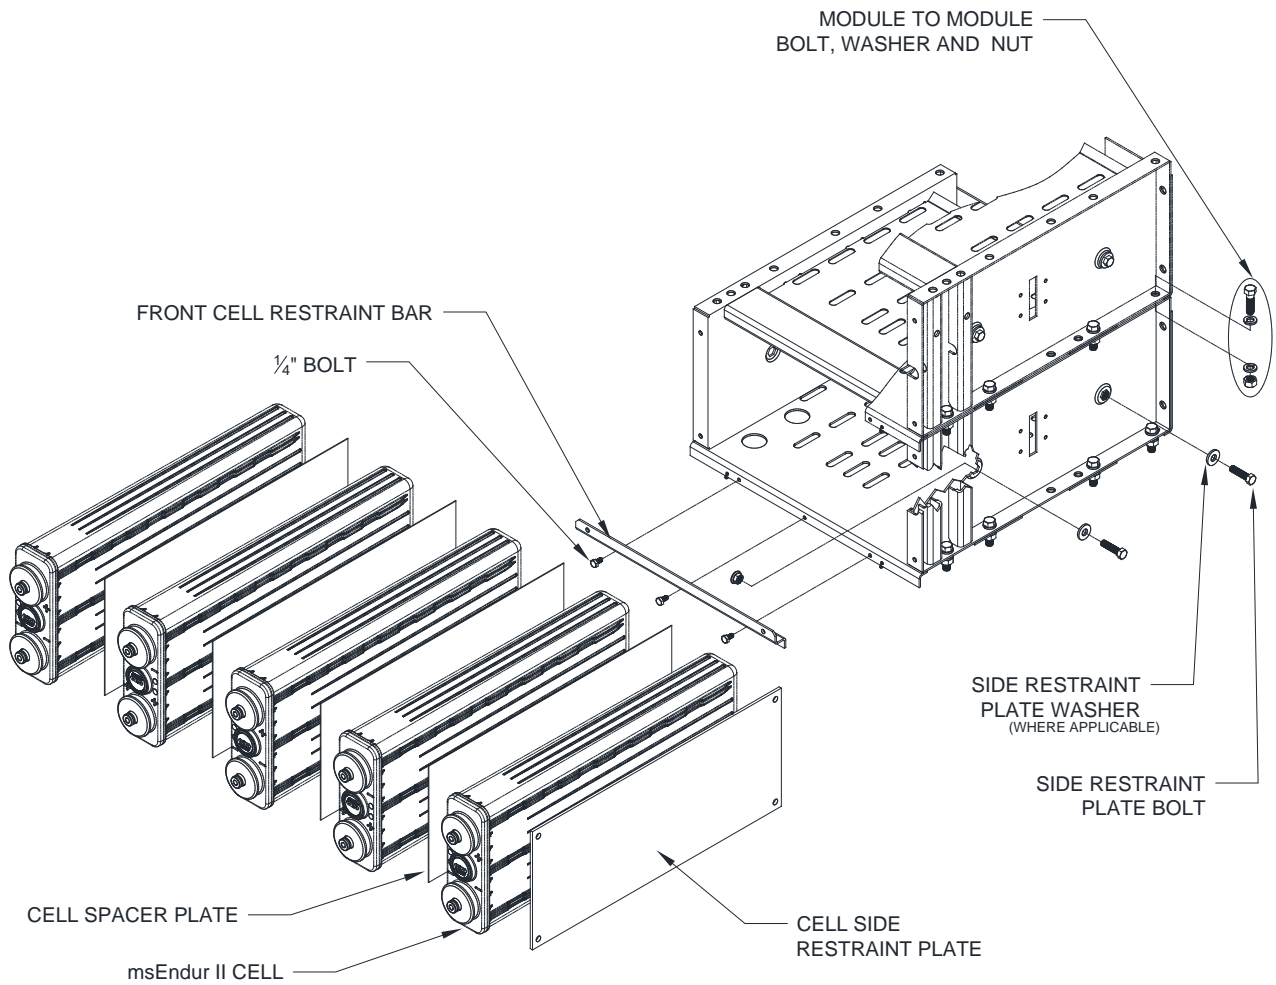

Figure 6-4 Spacer and Front Cell Restraint Assembly
- 3) If the assembly requires additional modules, using appropriate lifting equipment, place additional modules, one at a time, on top of modules already in place. Properly align modules and mounting holes, and insert the bolts, washers and nuts as shown in Figure 6-4. Module-to-module bolts should be torqued to 60 ft-lb (81 N-m) using a torque wrench.
7. Install the remaining cells within the module repeating steps 2-5 until the module is full. After each new cell is installed, insert metal cell spacer plate between each cell. The spacer plate should be pushed to the back of the module. Slide the cell over to the previously installed cell. This will ensure that the cells are all biased toward the side opposite of the cell side restraint plate and side restraint hardware. This will allow adequate room for ease of insertion of the cell side restraint plate. When installed properly, cell spacer plates should not reach the jar/cover joint. If the cell spacer plate extends beyond the lower lip of the module, remove it, check for any obstructions and re-install. See Figure 6-4
8. Once all cells are installed within the module and spacer plates are in place, insert the cell side restraint plate as shown in Figure 6-4. The cell side restraint plate should also be pushed to the back of the module. When properly installed, the cell side restraint plate should be fully seated against the back of the module and the front edge of the plate should not reach the jar cover seal. With all cells, spacer plates, and cell side restraint plates installed within the module, the front cell restraint bar should be installed using all supplied hardware. The front restraint bar hardware should not be completely tightened at this time. See Figure 6-4
9. Starting with the top module, side restraint plate bolts (installed earlier as described in step 2) should now be tightened. Bolts should be hand-tightened first to ensure they are square against the module and the cell side restraint plate. See Figure 6-4
11. The front cell restraint bar hardware should be completely tightened at this time. To maintain seismic ratings, all front cell restraint bar hardware must be installed and torqued to 6 Ft-Lb (8 N-m). See Figure 6-4
6. Remove front cell restraint bar bolts, shown in Figure 6-4. Restraint bar may be left attached to modules using retaining rings to prevent it from being misplaced. The cell side restraint plates can now be removed. This will allow the cells to be moved apart for ease of removing the cell spacer plates and the cells. The cell spacer plates can now be removed.